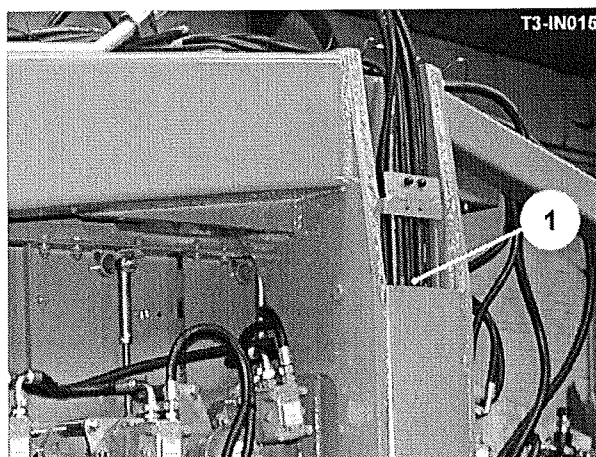

Fig 20
The 'Machine Level' button on the slave box and service terminal screen operates the levelling ram (item 1, fig 20) inside the LH wheel leg.